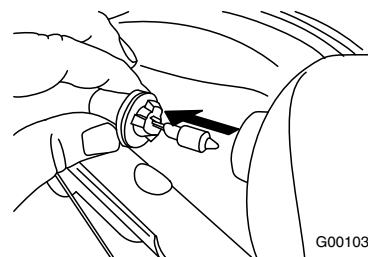

Figure 54
3. Remove the bulb straight out from the back of the headlight (Figure 54).